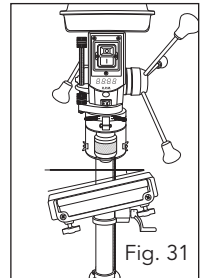

Fig. 31
2. With the aid of the angle scale (20), set the drill table (4) to the desired angle (Fig. 31).
3. Tighten down the carriage bolt in order to lock the drill table (4) into this position.